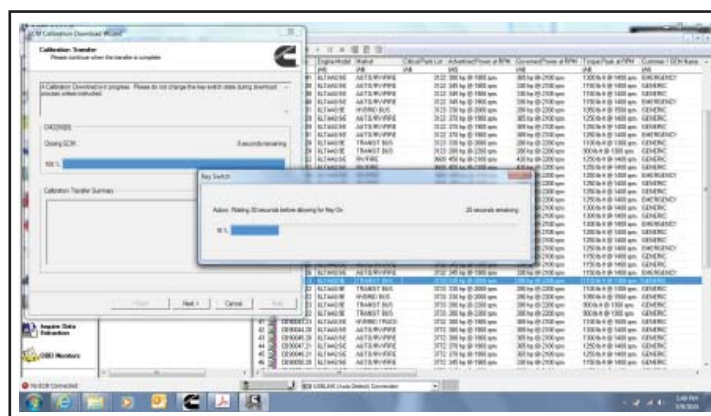

Figure 25 - Waiting Time
1.25. After turning key switch back on, it will go through a check giving time for key switch to be turned on. See Figure 25.